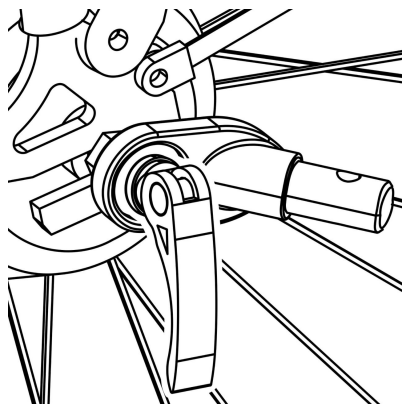

Figure 1
1. Quick-release Axle: Remove the quick-release from the left side of bike's rear axle. Install the hitch between the quick-release and frame. Tighten the quick-release following the bike manufacturer's manual. Hitch can remain on the bike when the trailer is removed (Figure 1).